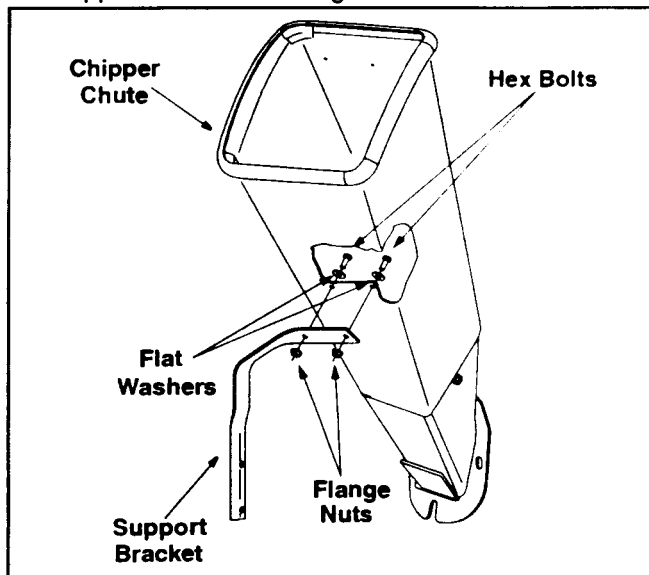

Figure 3
- Loosen, but do NOT remove, the two hex bolts, flat washers, and flange nuts which are secured to the support bracket. See Figure 3.